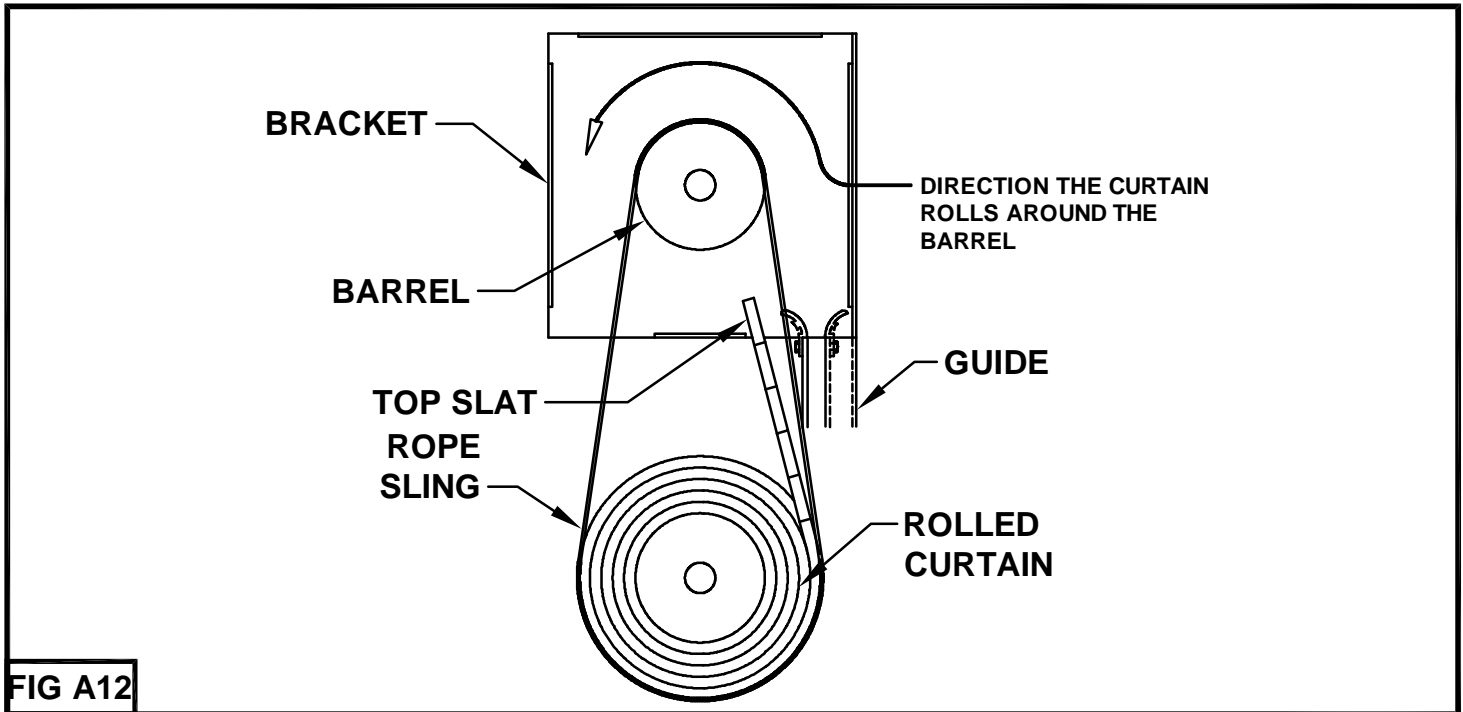

FIG A12
- 1) With the curtain rolled up (as shipped from the factory) place it in slings below the barrel as shown below in Fig. A12. The slings may be made from soft cotton clothesline or other material that will not scratch the anodized finish.